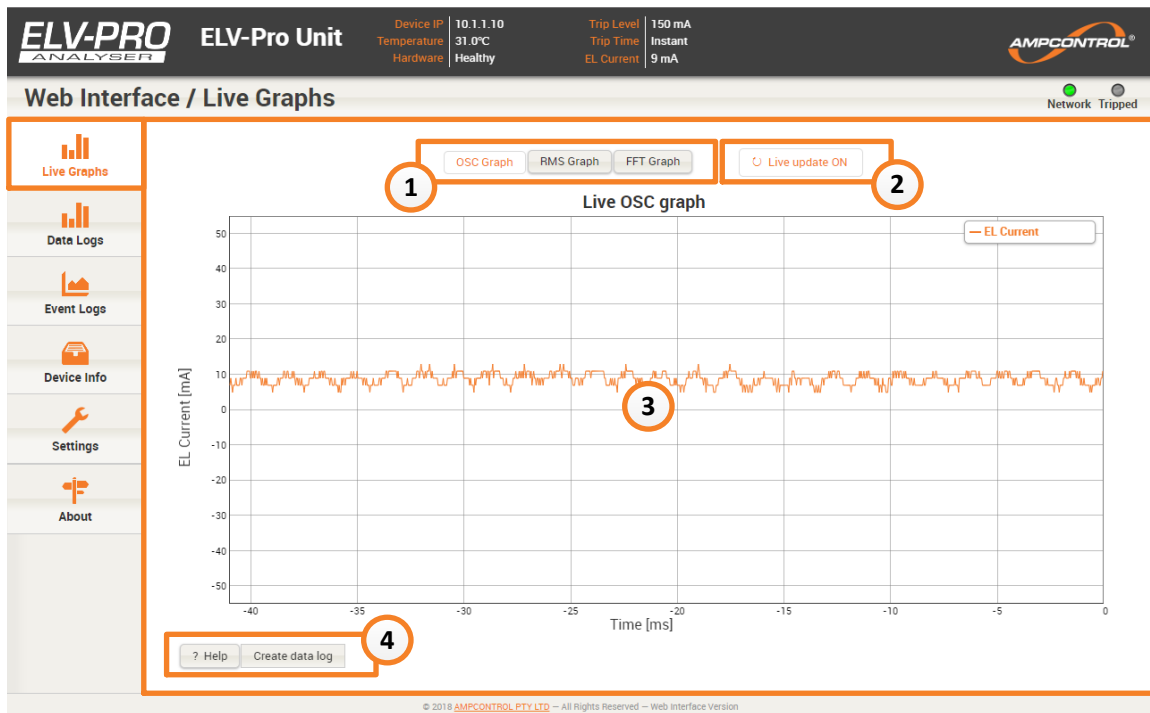

Figure 6-4: ELV-PRO Web Interface - Live Graphs (OSC)
- OSC (Oscilloscope) graph: Plots the instantaneous values of earth leakage current measured by the ELV-PRO. At every update, it displays the last 80ms of data. Figure 6-4.
For information on navigating the interactive graphs see Section 6.2.8. There is also a Help button below the plots, item 4 of Figure 6-4, which allows access to online help information.